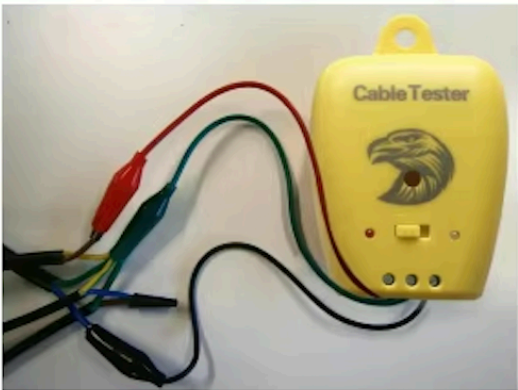

Figure 3
2. FOR UP TO THREE MATS OR CABLES: Connect brown lead wire (not the ground wire) from one mat or cable into the red clip. Connect blue lead wire (not the ground wire) from a DIFFERENT mat or cable into the black clip. Now connect the remaining lead wires so the mats or cables are in a "series" with one another. Cover the connections with insulation tape. If this not done properly, the screamer may not correctly monitor the mats or cables. Lastly, connect all the green ground wires from the mats or cables together to the green alligator clip. See Figure 3.